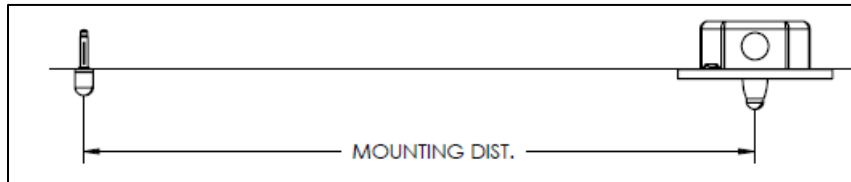

FIG. 10 – MOUNTING INFORMATION
7. MARK THE LOCATION FOR THE ANCHORS FROM J-BOX (BY OTHER) as per MOUNTING CHART INFORMATION (see table) and MOUNTING DISTANCE as shown in FIG.10.